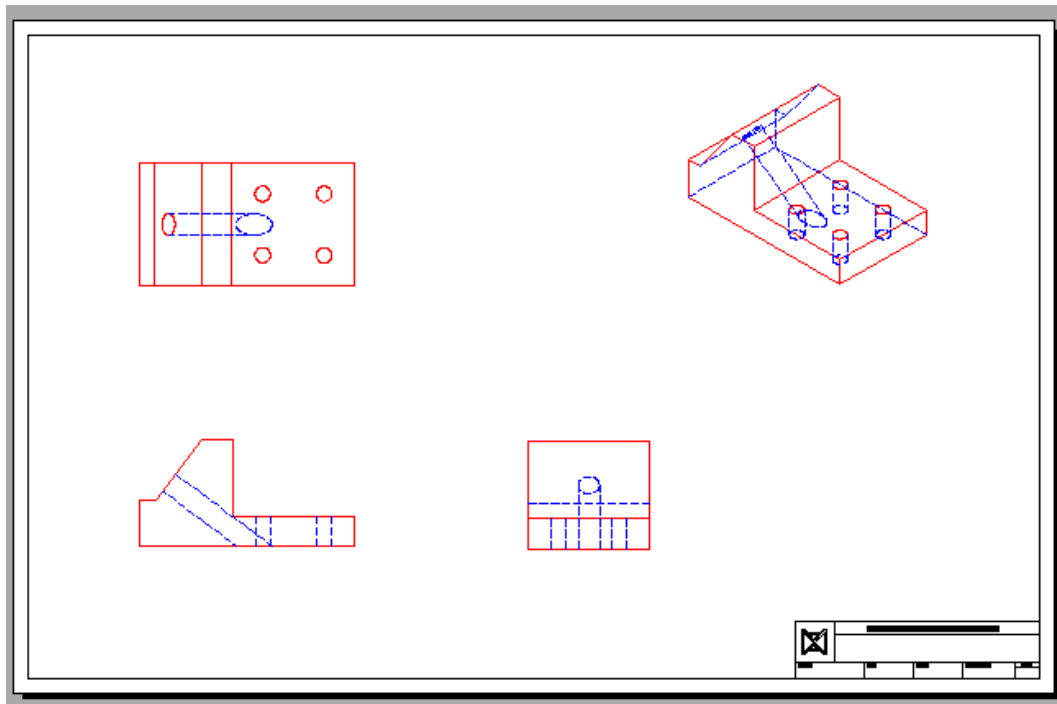

Figure Step 17
Step 17 Turn Layer: VPORT off and your completed drawing should appear similar to the figure. (Figure Step 17)